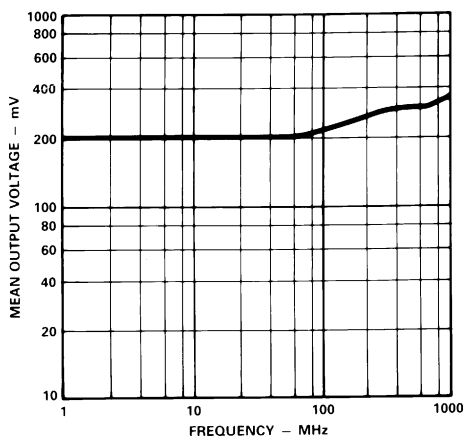
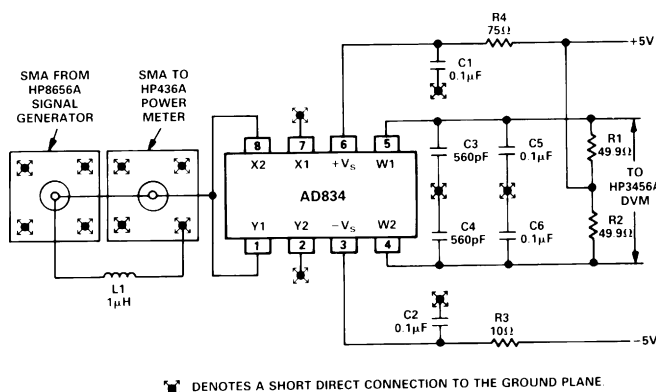

Figure 1. Mean-Square Output vs. Frequency
Figure 5. Bandwidth Test Circuit
4Bandwidth is guaranteed when configured in squarer mode. See Figure 5.
**Figure 1.** Figure 1 is a plot of the mean-square output versus frequency for the test circuit of Figure 5. Note that the rising response is due to package resonances.
**Figure 5.** The squarer configuration shown in Figure 5 is used to determine wideband performance because it eliminates the need for (and the response uncertainties of) a wideband measurement device at the output. The wideband output of a squarer configuration is a fluctuating current at twice the input frequency with a mean value proportional to the square of the input amplitude.
(Refer to Figure 5 test configuration.) Using the device as a squarer the wideband output in response to a sinusoidal stimulus is a raised cosine:
directly to the same point on the ground plane via the shortest possible leads. Parallel combinations of large and small capacitors are used to minimize the impedance over the full frequency range. (Refer to Figure 1 for mean-square response for the AD834 in cerdip package, using the configuration of Figure 5.)